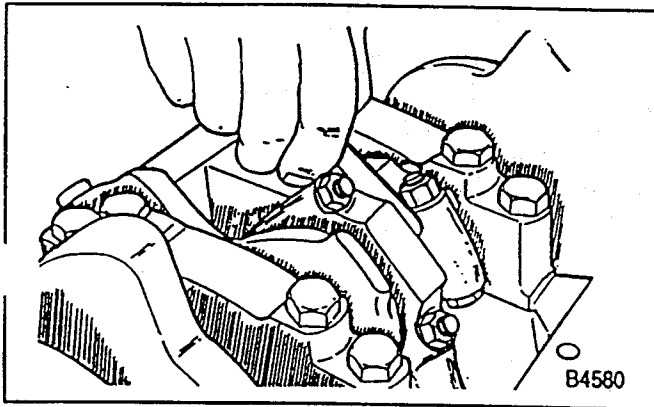

Figure 82—Measuring Connecting Rod Side Clearance
Measure (Figure 82)
- Connecting rod side clearance. Use a feeler gage between the connecting rods (figure 82). The proper clearance is as follows: